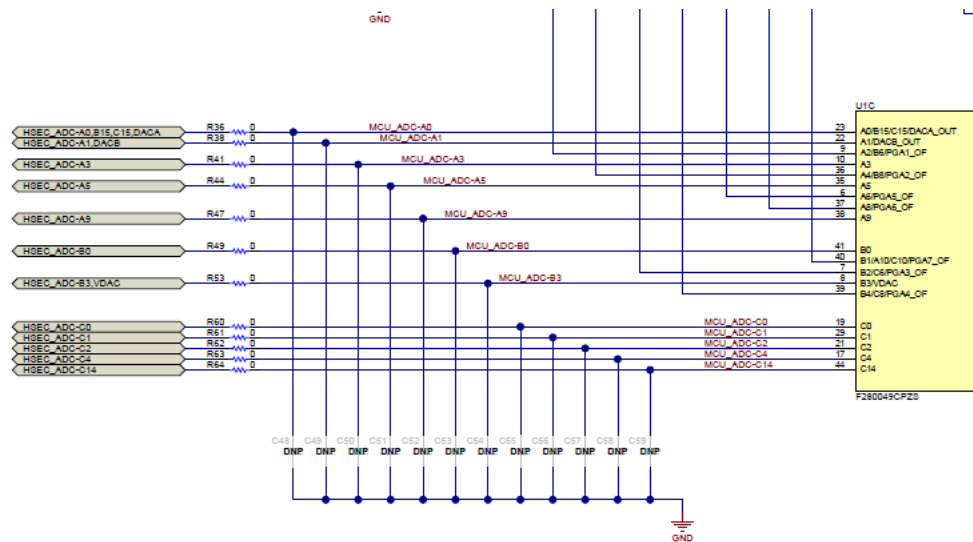

Figure 4-4. Partial Schematic Showing Default R and C values
On-board resistors and capacitors: By default (Figure 4-4) all inline resistors to the ADC pins are a simple 0-Ω shunt and all capacitors to the ground plane are not populated. While this circuit can be used to supply the ADC inputs with a voltage, likely both the resistor(R) and capacitor(C) will need to be populated based on the voltage source's characteristics. Referring to the ADC Input Model, the ADC input has its own RC network made up of the internal sample and hold capacitor, switch resistance, and parasitic capacitance. By changing the inline resistance and parallel capacitor we can optimize the input circuit to assist with settling time and/or filtering the input signal. Finally, it is recommended in general to use Negative-Positive 0 PPM/°C (NP0/C0G) capacitors as these have better stability over temperature and across input frequencies than other types of capacitors.